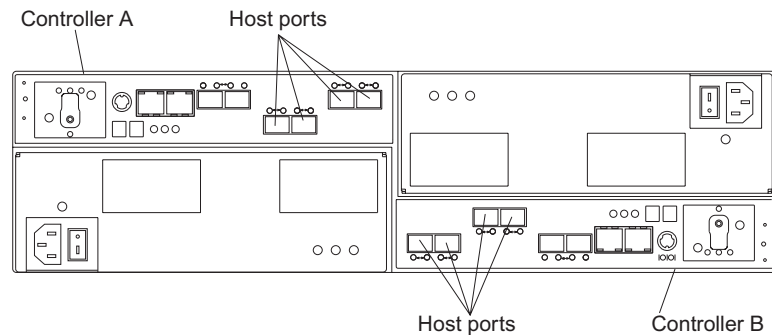

Figure 54. Location of host cables on RAID controllers on the DS5020
2. Connect the Fibre Channel cables from the SFP modules in the DS5020 RAID controller host ports to either the SFP modules in the Fibre Channel switch or the SFP modules of the host bus adapters. Figure 54 shows the location on the RAID controllers of the DS5020 storage subsystem where the host-system cables connect.